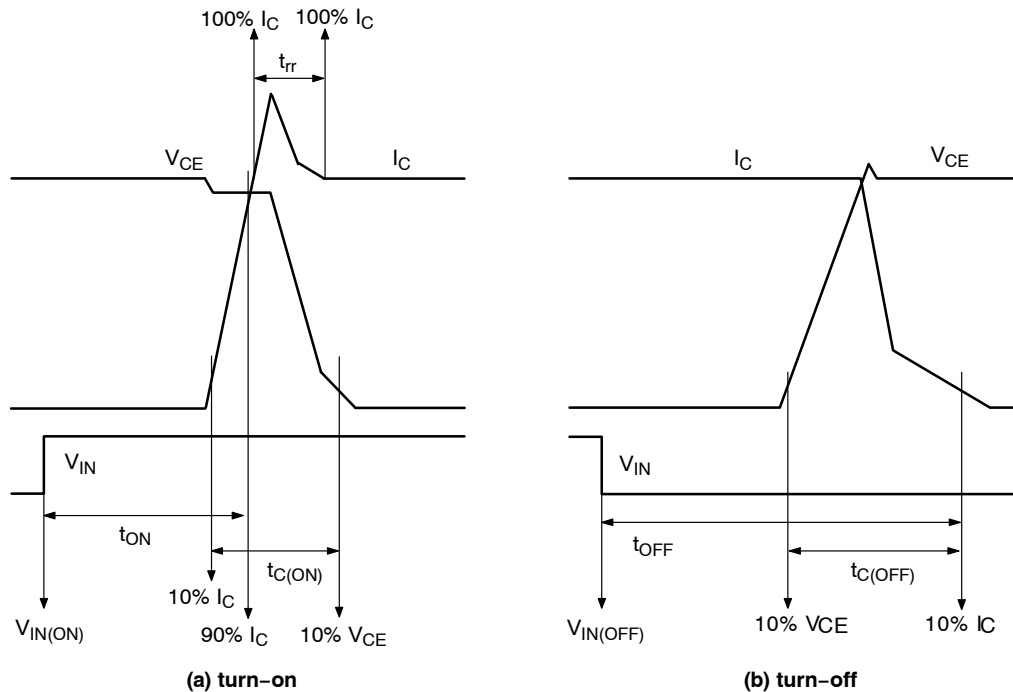

Figure 3. Switching Time Definition
6. t_{ON} and t_{OFF} include the propagation delay of the internal drive IC. $t_{C(ON)}$ and $t_{C(OFF)}$ are the switching times of IGBT itself under the given gate driving condition internally. For the detailed information, please see Figure 3.